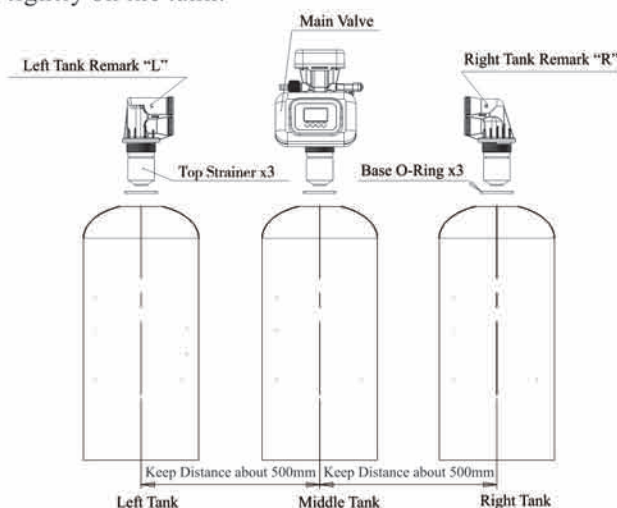

Figure 2
c. As the Figure 2 shows, screw the top strainer into the control valve. insert the riser pipe to control valve through the O-ring of base and the top strainer, then screw the control valve tightly on the tank.